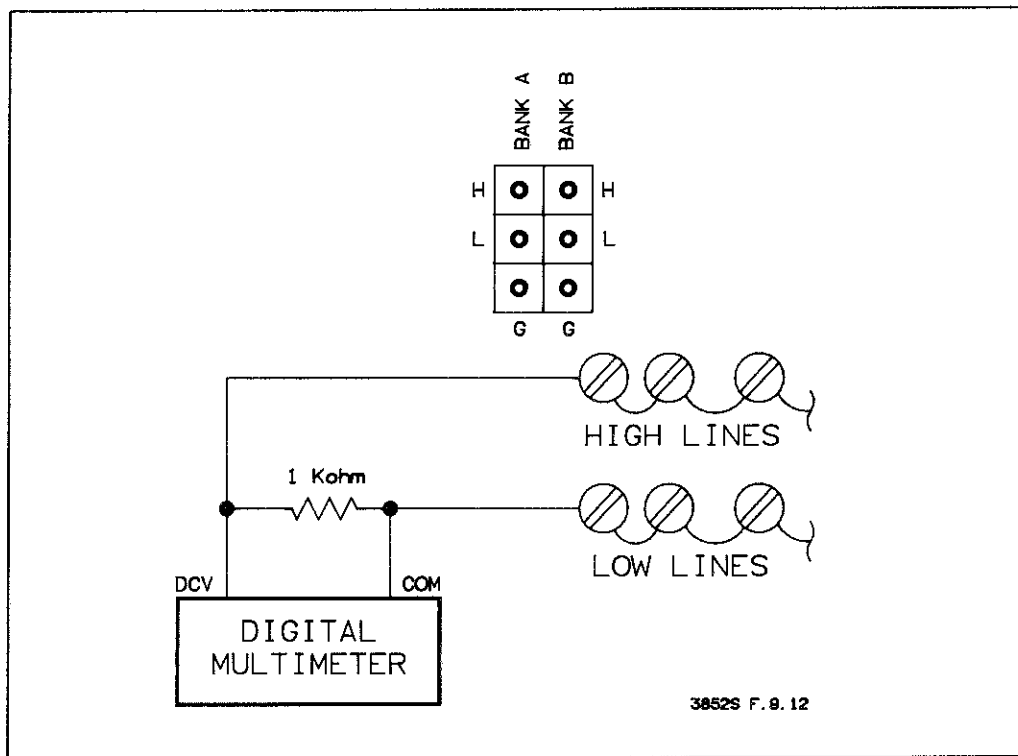

Figure 9-12 HP 44709A/44710A DC Offset Test Set-Up
1. Perform the Set-Up Procedure given in Section 9-23. The DC Offset test set-up is shown in Figure 9-12.